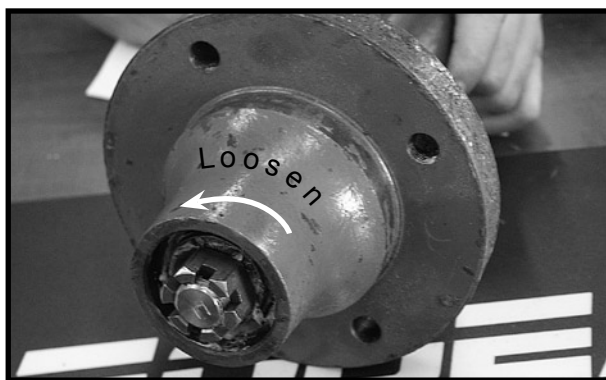

Figure 17-4
- G. Lubricate wheel hubs every 100 loads. Figures 17-4, 17-5